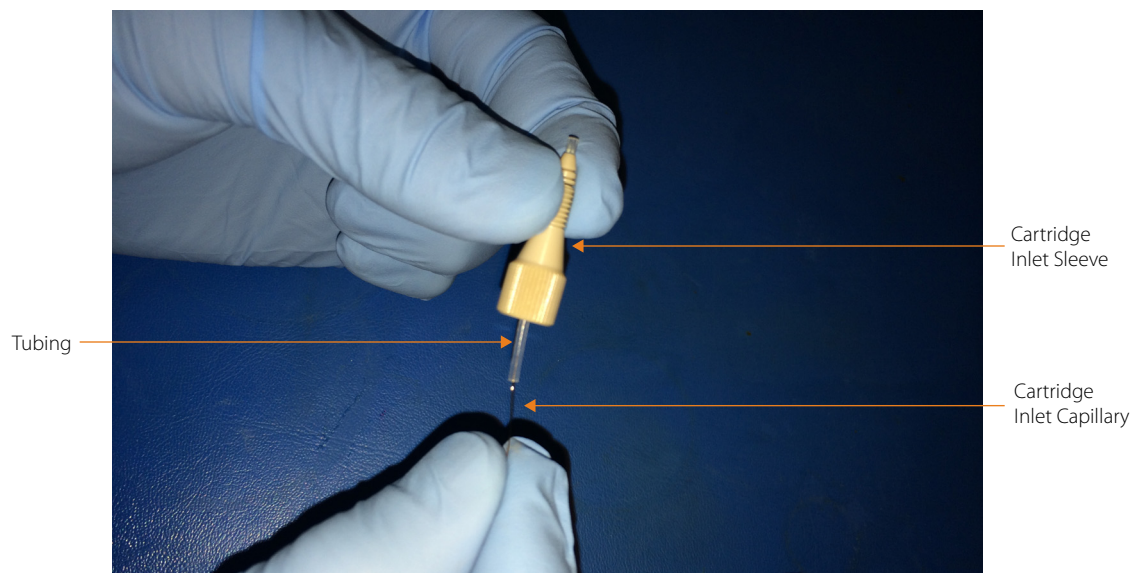

Figure 5-13: Holding the cartridge inlet sleeve and cartridge inlet capillary.
21. Hold the cartridge inlet sleeve with two fingers of one hand, and hold the cartridge inlet capillary with two fingers of your other hand (Figure 5-13).
22. Insert the cartridge inlet capillary into the opening at the bottom of the tubing (Figure 5-13).